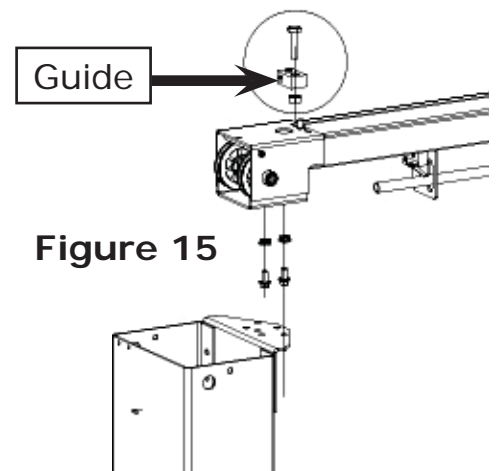

Figure 15
- Adjust the beam to appropriate dimensions. Tighten the flange bolts M10X20 and the flange nuts M10 after adjustments (ref. fig. 15);
- Install the safety release wire guides using the bolts M6X25 and the hex nuts M6 (ref. fig. 15).